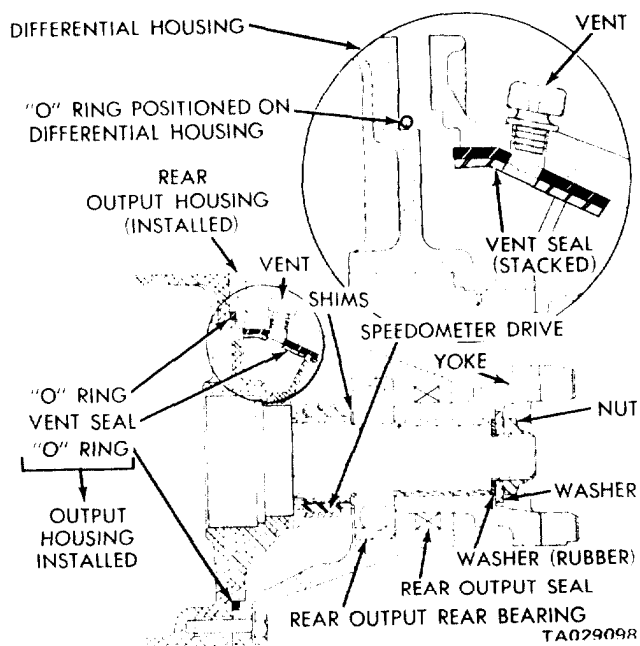

Figure 17-13. Rear Output Housing Assembly.
(1) Position the flat rubber seal ring in the bearing bore. Use grease to hold it in place. Position the roller bearing in the differential housing bore and press it in until the bearing bottoms in the housing.
(2) Position the rear bearing in the output shaft housing and tap or press it into place.
(3) Install the rear output shaft seal into the output shaft housing.
(4) Install two new seals on the inside surface of the output housing, centering the holes at the vent opening (figure 17-13). Stack the two seals.
(5) Position the sealing "O" ring on the differential housing as shown in (figure 17-13).